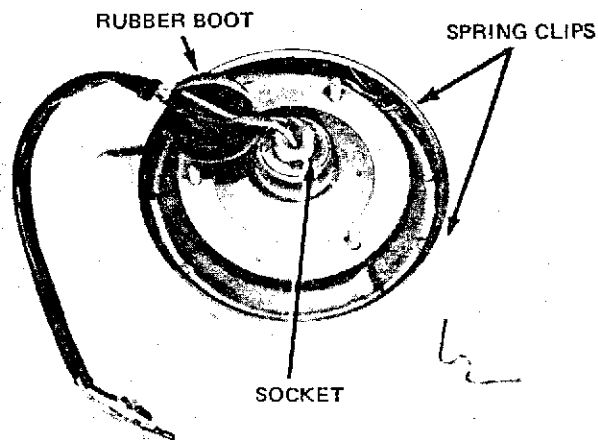

Figure 48 — Headlamp Socket Rubber Boot
5. Slide rubber boot back off the lamp socket, Figure 48.
6. Remove four spring clips holding the reflector in the ring, Figure 48.